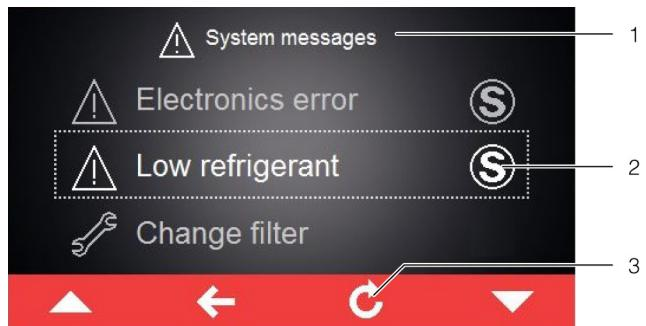

Fig. 21: Screen showing error messages
If an error message applies that cannot be resolved by the operator himself and which is not reset automatically, the "Service" symbol will appear after the error message and in the control bar next to the symbol for system messages (fig. 21, item 2).